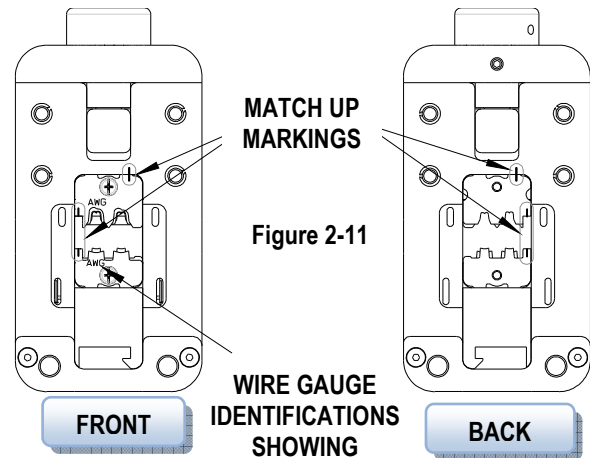

Figure 2-11
**Note:** The tool part number markings on the dies go inward so they will not be visible when installed. See Figure 2-11.